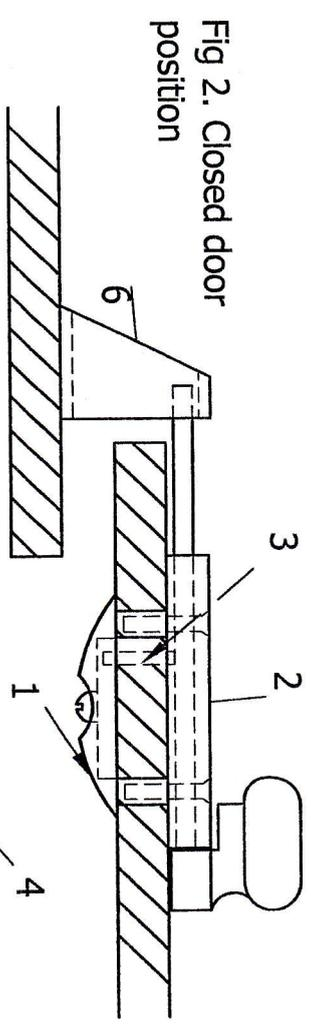

Fig 2. Closed door position
2. Locate faceplate 1 onto outside of door into drilled 7.5 dia holes. Engage operating pin 3 into elongated slot in door, ensuring pin 3 locates into slot in indicator disc inserted in faceplate (FIG 2). When bolt body 2 is positioned and operating pin is correctly engaged tighten using M4 threaded screws supplied through holes 4. **Important:** Before tightening ensure that when the bolt is in the closed position as in FIG 2 ensure that the indicator colour shows RED.
3. When door is in closed position locate and secure keeper 6 with self tap screws provided as FIG 2 & 3.